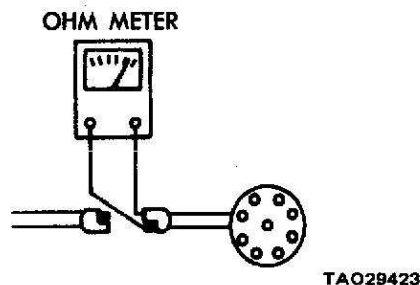

Figure 2-33. Testing Pickup Coil at Distributor Lead Connector
(14) Disconnect the dual lead connector coming from the distributor. With the meter still set on the lowest ohms scale, check the resistance at the dual lead connector, going to the distributor (figure 2-33). If the reading still is not between 150 and 900 ohms, replace the pickup coil assembly in the distributor (paragraph 2-23). If the meter now reads 150 to 900 ohms, go to step 15.
(15) Check for continuity between terminal 4 of the control unit wiring connector and the gray wire at the dual connector. Then, check for continuity between terminal 5 and the brown and white wire at the dual connector. If continuity exists, check for an open circuit between terminals 4 and 5. If continuity doesn't exist, or you don't have an open between terminals 4 and 5, notify Direct Support to repair the wiring harness between the distributor and control unit. If all three conditions are okay, reconnect the wiring harness at the control unit and distributor, and go on to step 16.